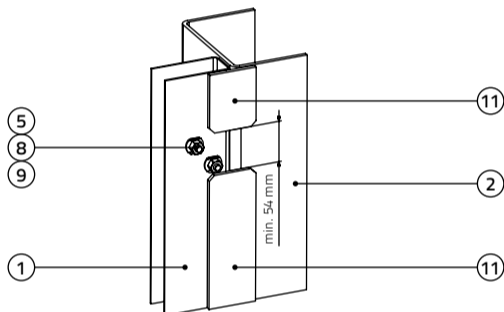

Figure 4
If necessary, remove the obstructive part of the abutting piece (11) – see Figure 4.